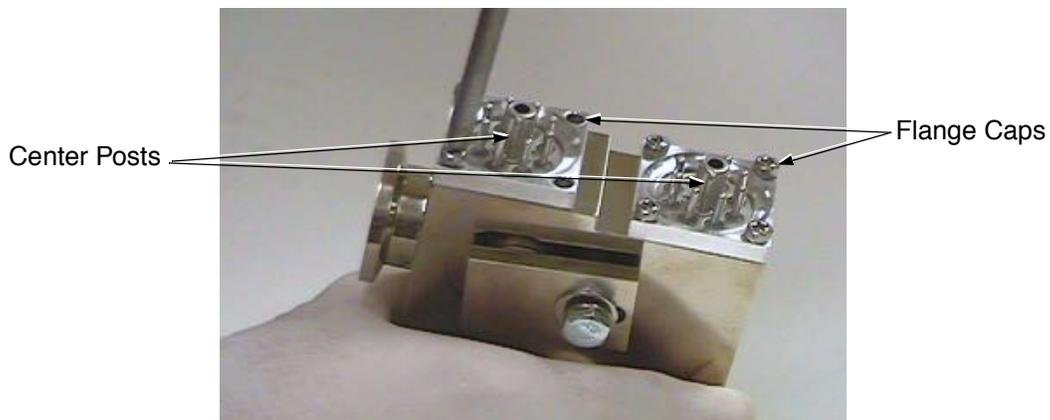

Figure 3-7 Removing Flange Cap Screws
7. Remove the 4 screws that hold the ion source flange cap (Figure 3-7).